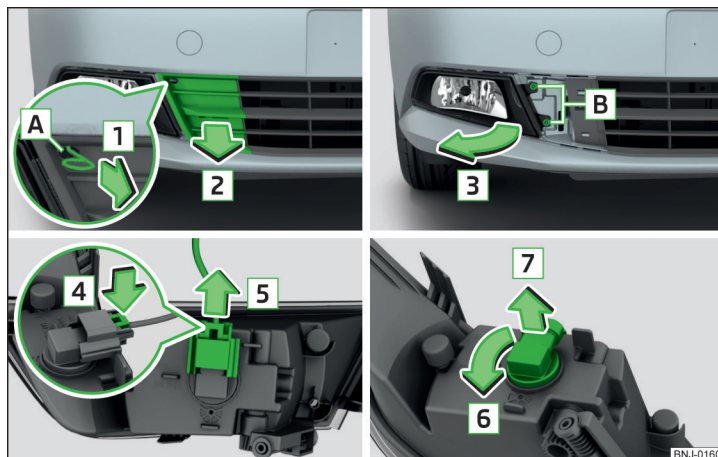

Fig. 215 Removing the fog lights/ changing bulb for fog lights
- By pulling the hook in direction of arrow **1** remove the protective grille in the arrow direction **2** » Fig. 215.
- Press the latch on the connector in the direction of arrow **4** » Fig. 215.
» Fig. 215 and tightening.